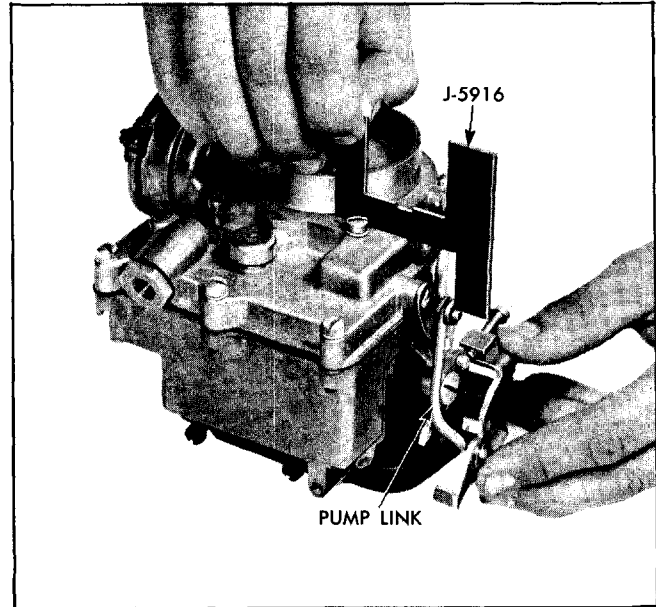

Fig. 6B-106 Checking Pump Link
17. Replace link in fast idle cam (Fig. 6B-108) and choke lever (Fig. 6B-87), place choke lever on cover with the tang facing outward and toward the pump lever. Install spacer washer and trip lever so that tang of trip lever is under tang of choke lever, and install retaining screw (Fig. 6B-86).